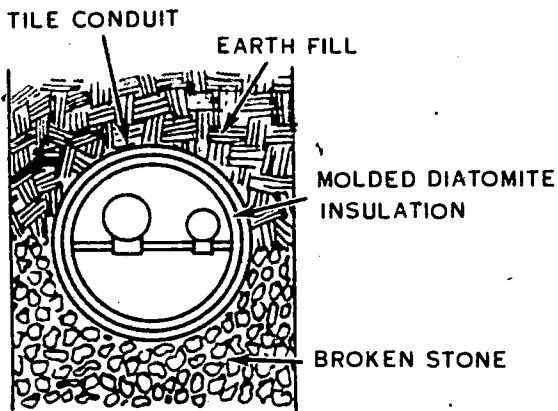

Figure 45. One type of steam distribution conduit.
3. **Conduit type.** In the conduit type of steam distribution system, the pipe is installed inside a conduit that is usually buried in the ground below the frostline. The frostline is the lowest depth that the ground freezes during the coldest part of the winter. The pipe used for steam is black steel pipe, which is not as strong as that required for condensate return lines. The conduit and insulation serve to protect and insulate the steam pipe. One type of conduit is illustrated in figure 45. The conduit must be strong enough to with-